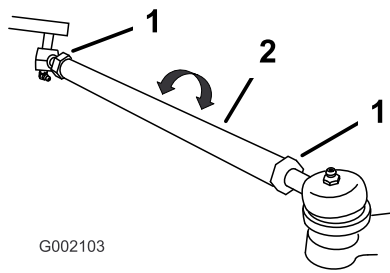

**Figure 33**
3. Measure the distance between both of the front tires at the axle height at both the front and rear of the front tires (Figure 33).